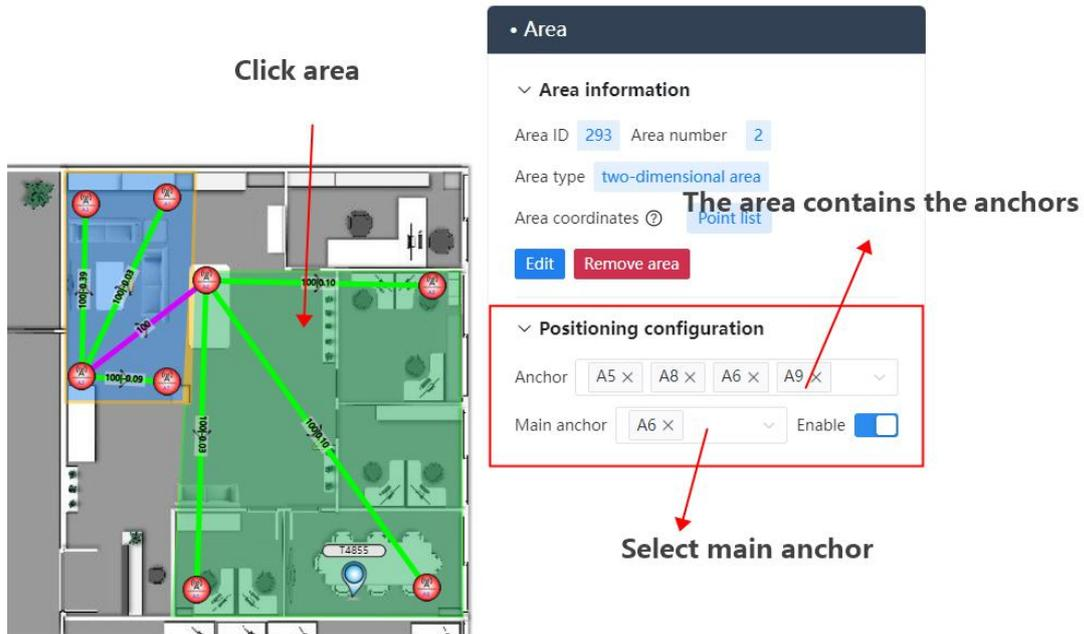

Figure 15: Illustration of the Region Properties Box
⑥ Click on the polygon of the corresponding region, and an area properties box will pop up (as shown in Figure 15). Edit and change the relevant information for the region. In the "Anchors" box, add all the anchors needed for positioning calculation within this region. Select the main anchor, which should have an unobstructed line of sight to all other anchors in the region.